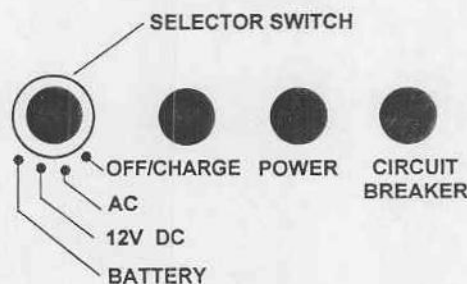

Figure 2-1. Operating mode selector switch.
- a. *Operating mode selector switch (fig 2-1).* This four-position rotary switch is the electrical control switch to start and stop operation of the suction apparatus, the operating voltage selector switch, and the internal battery recharging control switch. The functions of the four switch positions are as follows: